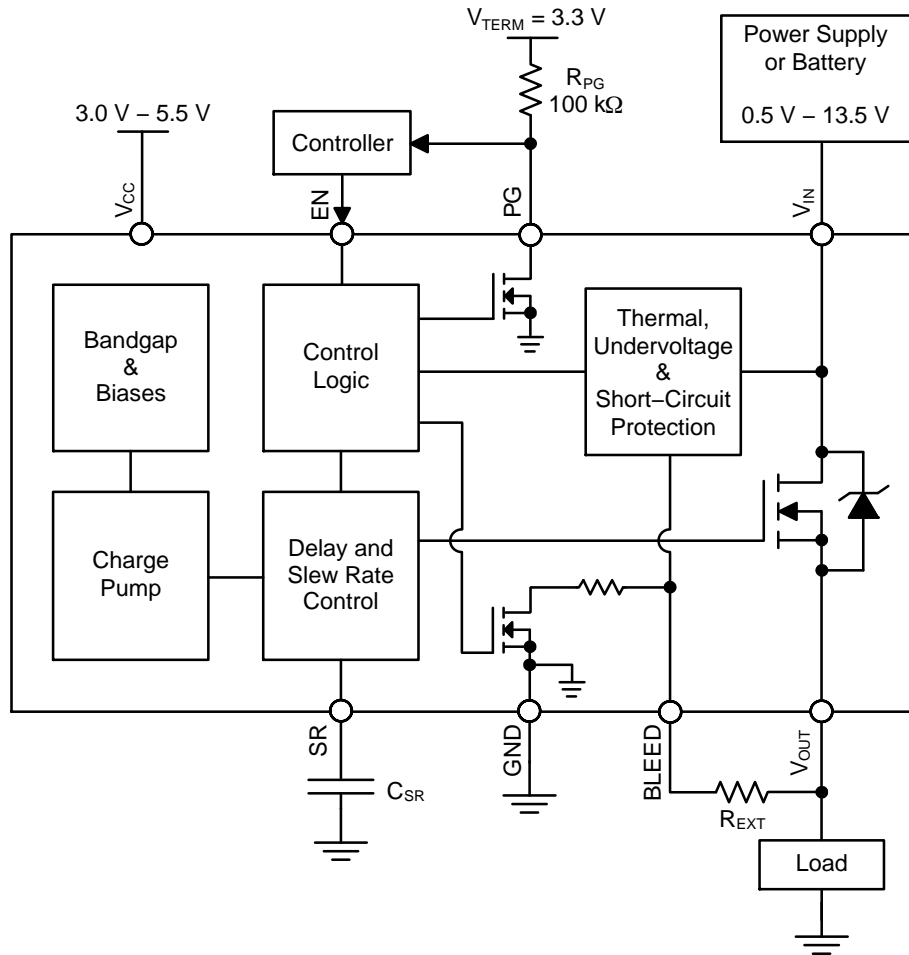
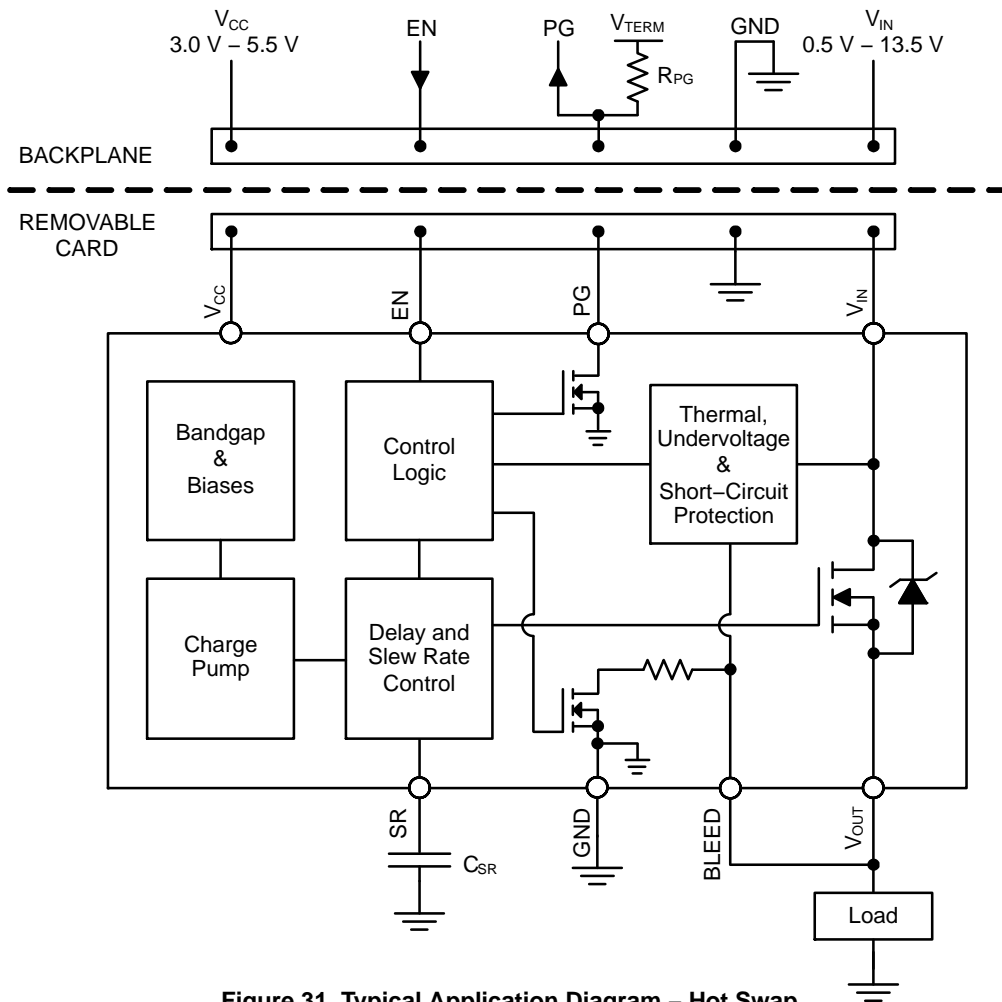

Figure 30. Typical Application Diagram – Load Switch
Figure 31. Typical Application Diagram – Hot Swap
It is required that the BLEED pin be connected to VOUT either directly (as shown in Figure 31) or through an external resistor, REXT (as shown in Figure 30). REXT should not exceed 1 kΩ and can be used to increase the total bleed resistance.
The NCP45560 devices have a power good output (PG) that can be used to indicate when the gate of the MOSFET is fully charged. The PG pin is an active–high, open–drain output that requires an external pull up resistor, RPG, greater than or equal to 1 kΩ to an external voltage source, VTERM, compatible with input levels of other devices connected to this pin (as shown in Figures 30 and 31).
The slew rate can be decreased with an external capacitor added between the SR pin and ground (as shown in Figures 30 and 31). With an external capacitor present, the slew rate can be determined by the following equation:
Once active, the circuitry monitors the difference in the voltage on the VIN pin and the voltage on the BLEED pin. In order for the VOUT voltage to be monitored through the BLEED pin, it is required that the BLEED pin be connected to VOUT either directly (as shown in Figure 31) or through a resistor, REXT (as shown in Figure 30), which should not exceed 1 kΩ. With the BLEED pin connected to VOUT, the short–circuit protection is able to monitor the voltage drop across the MOSFET.